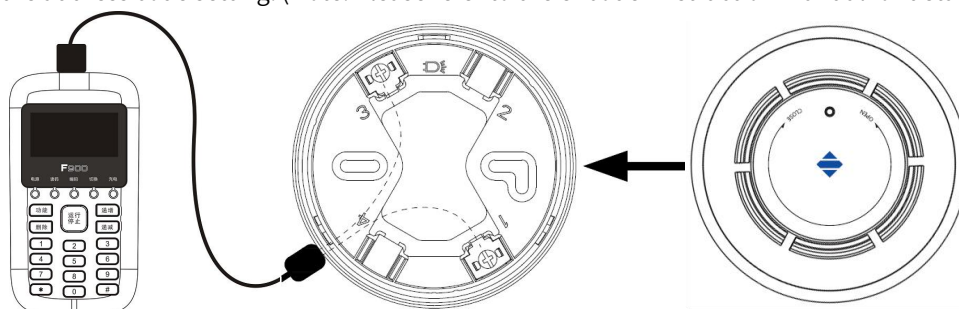

Fig.4
5.3 Address code: As shown in Fig.4, connect the detector through the detector base on the encoder. L1 and L2 use a non-polarity connection, set the encoder as the coding function, prepare the correct address code, and press the "Run" key to complete the address code setting. (Note: Please refer to the encoder instruction manual for detailed operation)